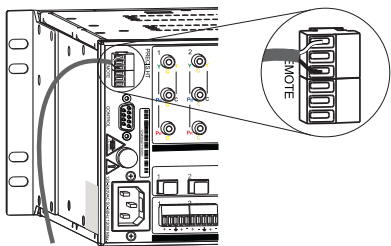

FIG. 8 Insert wires into REMOTE port
3. Insert XNNet link cable wires according to FIG. 8 (either wire can be inserted in either outside slot).